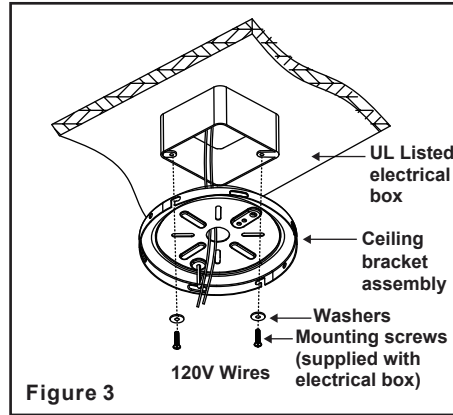

Figure 3
**Step 1.** Check existing outlet box (not included) to ensure it is securely fastened to at least two points in a structural ceiling member and can support the full weight of the fan. Once verified, install ceiling bracket assembly to the outlet box using the screws and washers provided with the outlet box (Figure 3).